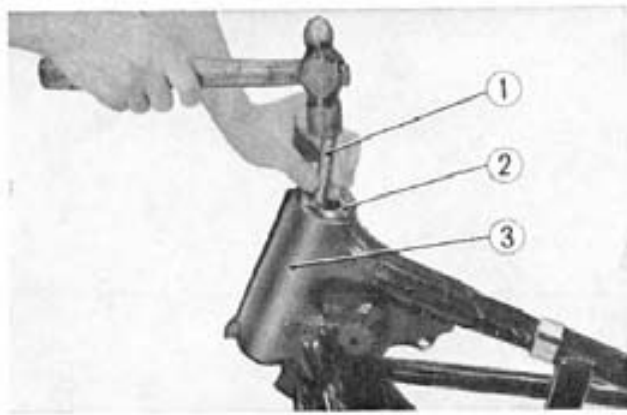

Fig. 15-4 ① Wooden drift ③ Head pipe
10. Remove the upper and lower ball races from the steering head. Use wood blocks to prevent damage when driving out. (Fig. 15-4)